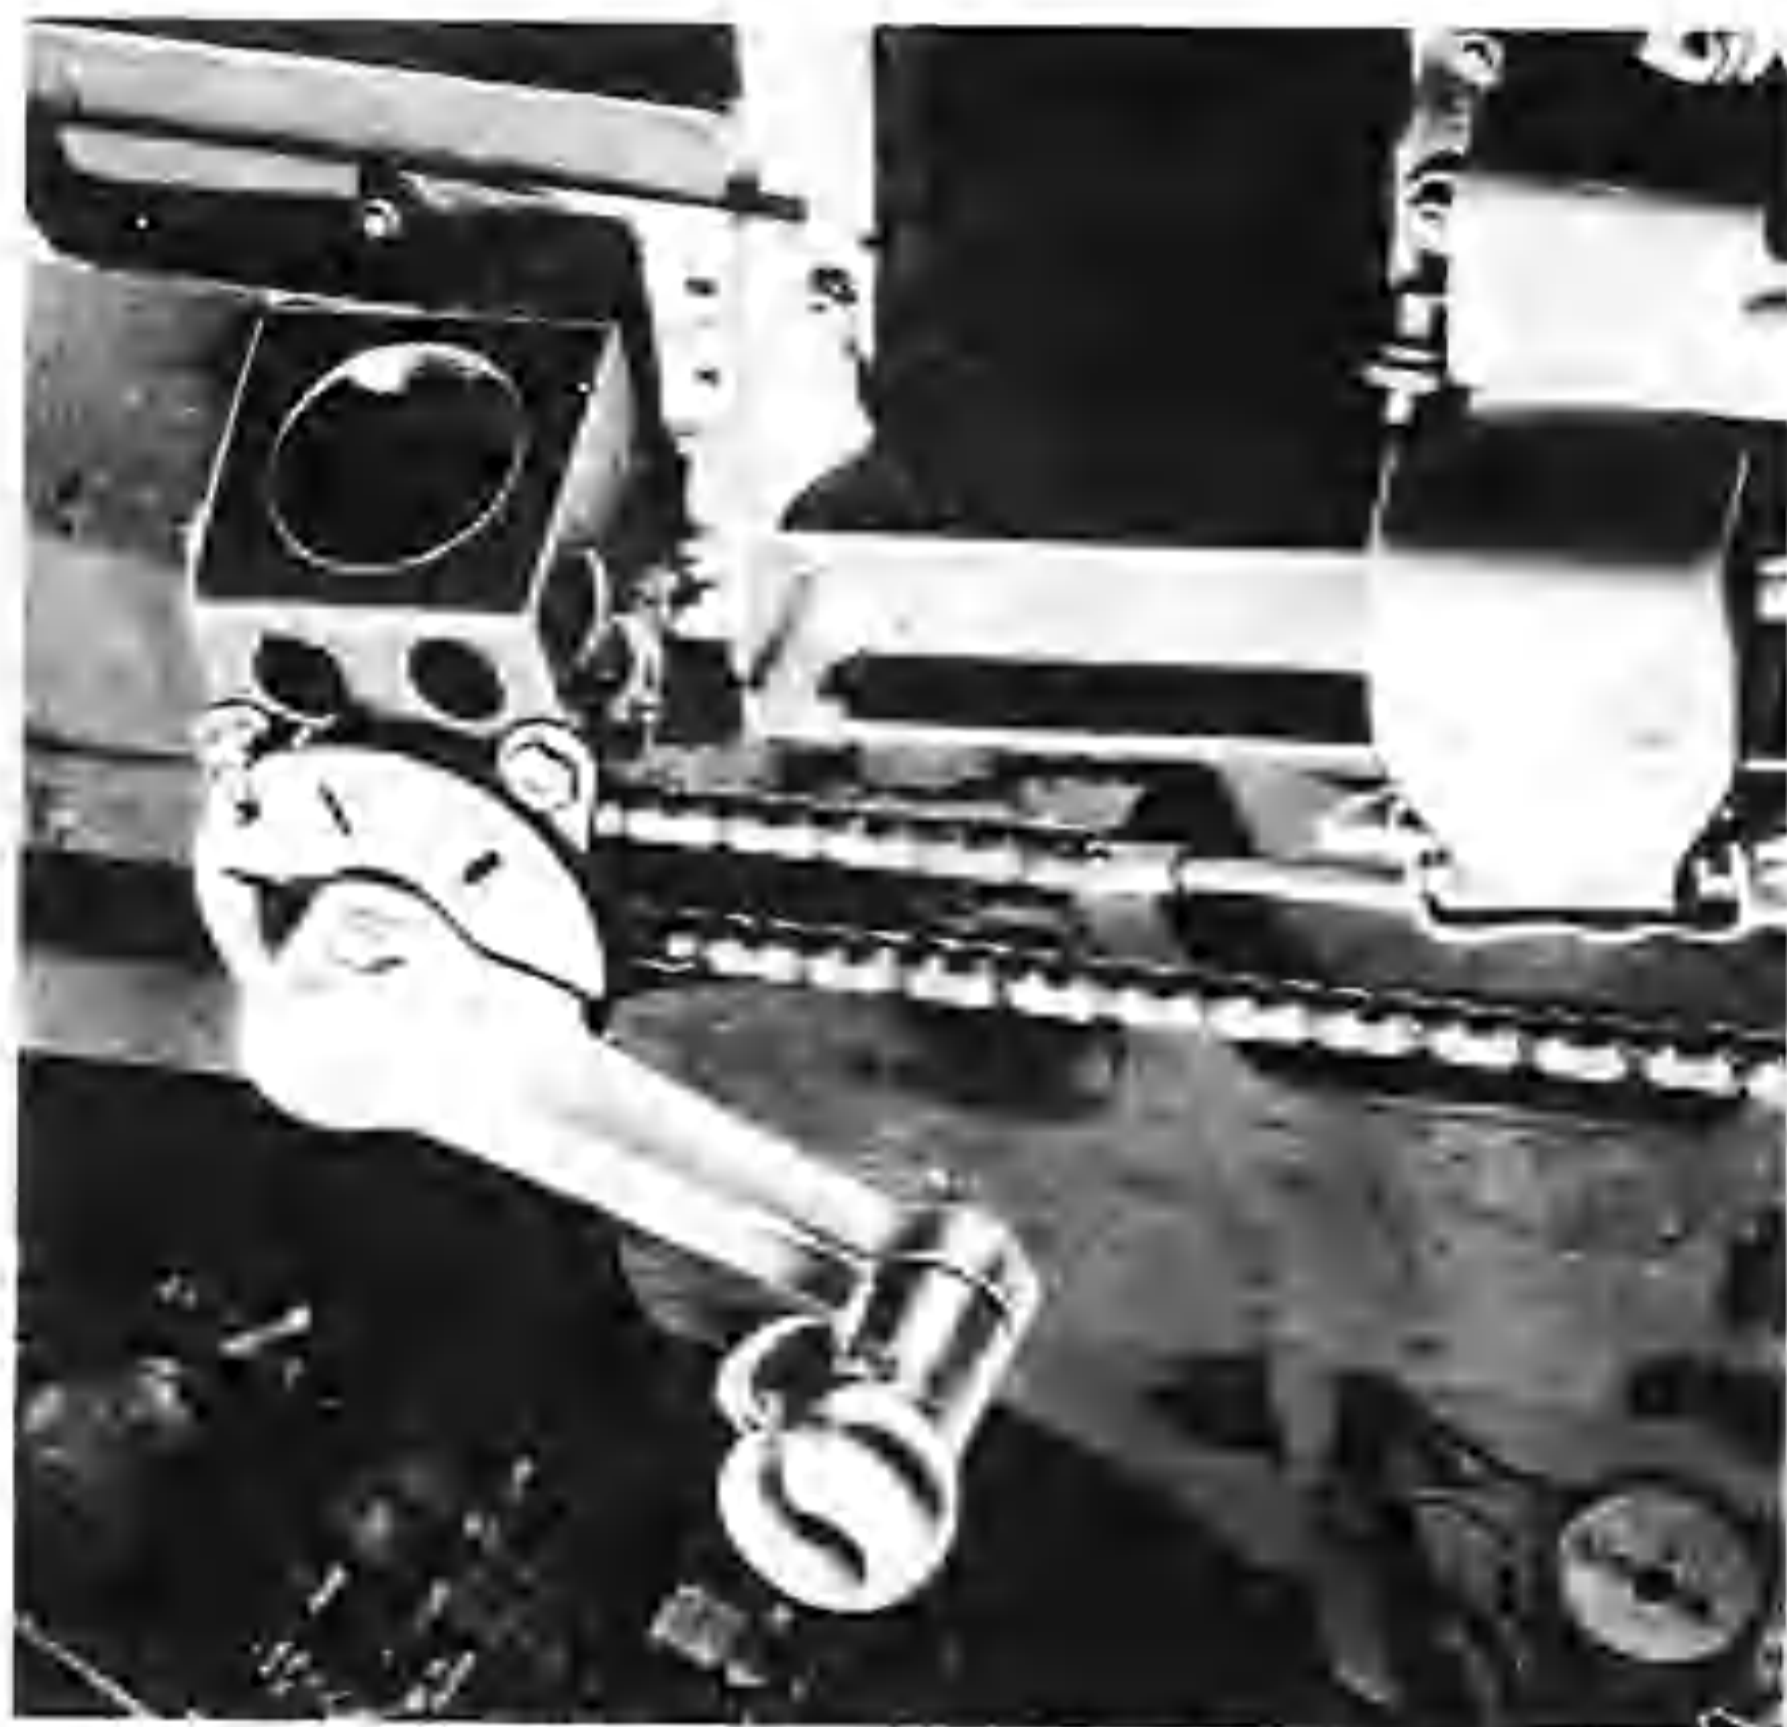

Figure 28 — Canopy Control Crank
(6) Close the canopy. (See figure 28.)